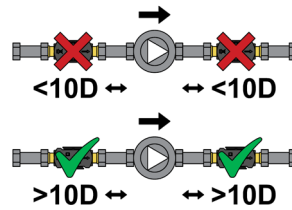

Fig.3
3. Do not place the flow sensor immediately before or after a circulation pump (Fig.3);